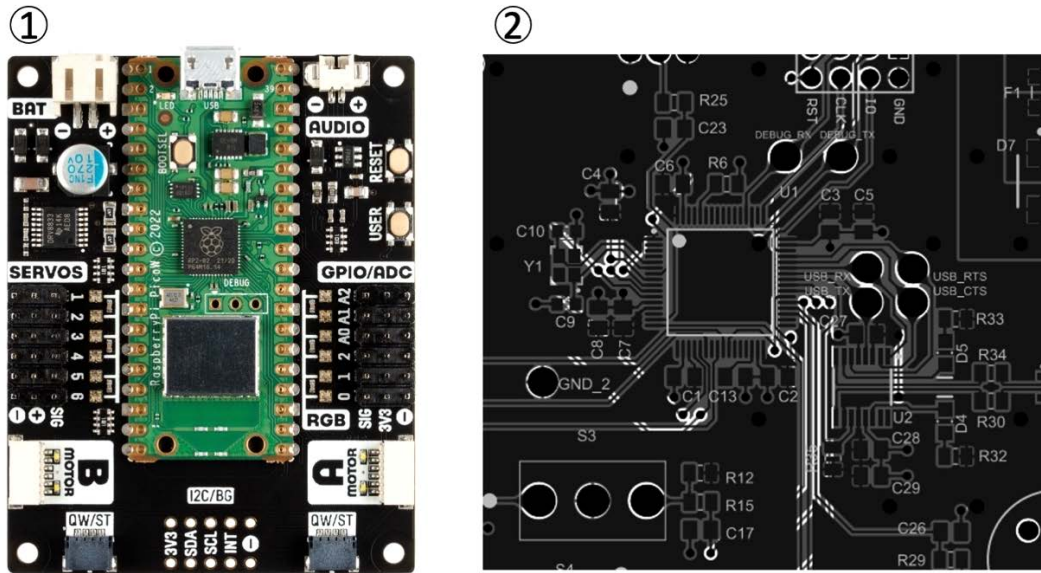

Figure 14.5 – Improving robot electronics
1. Pictured in *Figure 14.5 (1)* is an Inventor 2040 W from Pimoroni (<https://shop.pimoroni.com/products/inventor-2040-w>). Motor and robot boards for Raspberry Pi Pico or incorporating an RP2040 will reduce the amount of wiring. The Inventor 2040 W includes motor control, lights, and servo connections.
Figure 14.5 (2) shows a custom **Printed Circuit Board (PCB)** from <https://github.com/uwrobotics/MarsRoverHardware>. You can download or design your own using software such as KiCad. This is complicated but gives you lots of options for customization. You use a PCB view to lay out a circuit board and route connections between parts. Using PCBs allows you to make small, light, and tidy robot designs. In addition, it opens your designs to using surface mount electronics, which makes more components available. You can use **design rules** to ensure that the connections are all made and tracks are not touching. After this, you can then prepare the part for manufacture. You can take these designs to a board house, such as Seeed Studio (<https://www.seeedstudio.com/>), that prints the board for you.